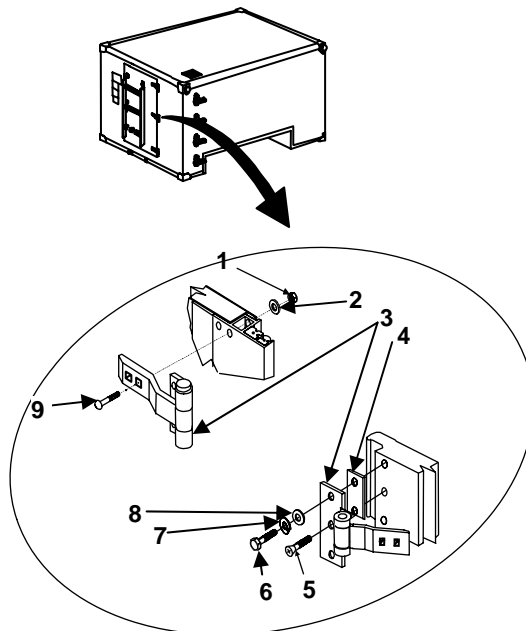

Figure 2. Personnel Door Hinge.
2. Remove bolts (figure 2, item 9), flat washers (figure 2, item 2), and nuts (figure 2, item 1) from hinge (figure 2, item 3).
3. Remove two hex head bolts (figure 2, item 6), lock washers (figure 2, item 7), and flat washers (figure 2, item 8), from hinge (figure 2, item 3).
4. Remove countersunk screw (figure 2, item 5), hinge (figure 2, item 3), and shims (figure 2, item 4) from shelter.
1. Apply a thin coat of sealant to shims (figure 2, item 4).
2. Locate hinge (figure 2, item 3) and shims (figure 2, item 4) to shelter and install with the countersunk screw (figure 2, item 5), two hex head bolts (figure 2, item 6), lock washers (figure 2, item 7), and flat washers (figure 2, item 8).
3. Install hinge (figure 2, item 3) to door with two bolts (figure 2, item 9), flat washers (figure 2, item 2), and nuts (figure 2, item 1).